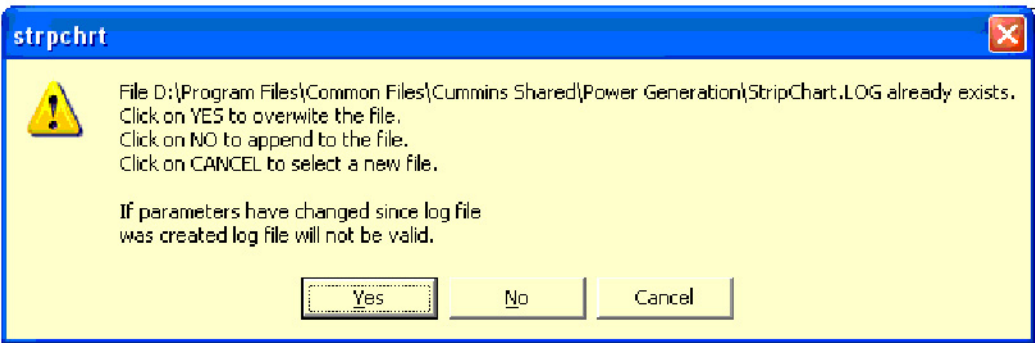

FIGURE 152. LOGGING MESSAGE
**Options-Logging Enabled:** This option is used to enable the logging option to save a file at the location set up with the Logging dialog. If a strip chart log has already been created, the message shown in Figure 152 is displayed.